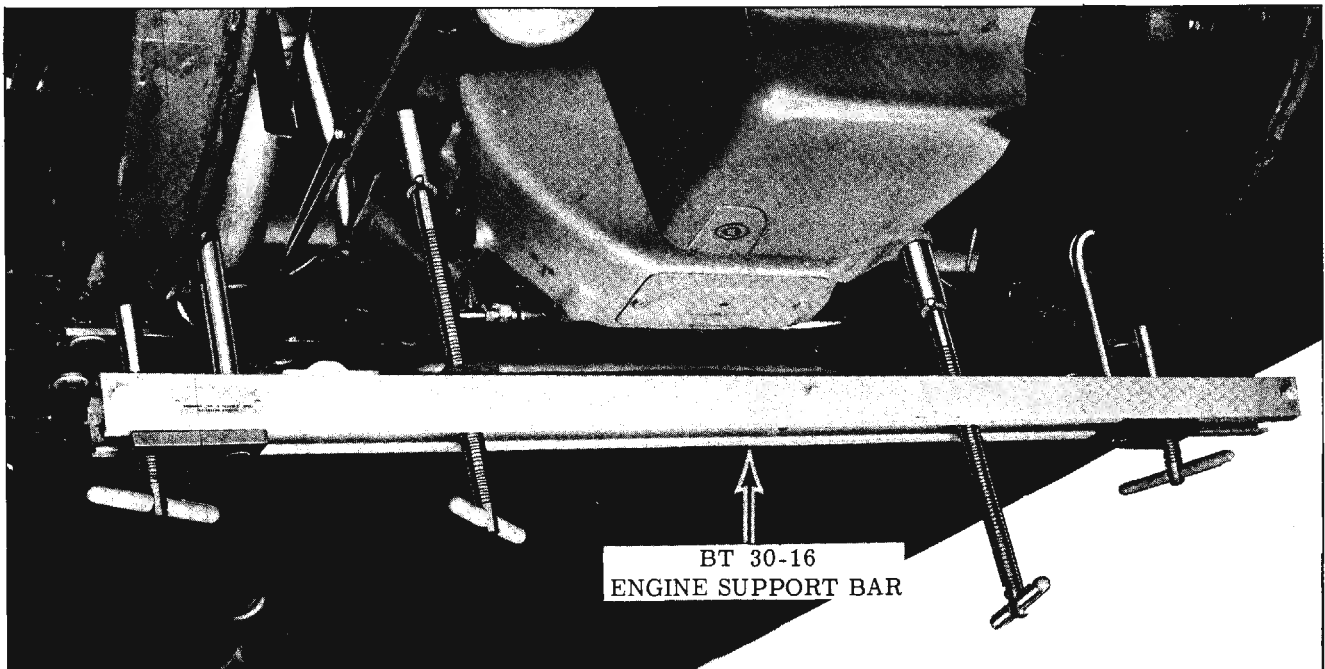

Fig. 8-52 Engine Support Bar
1. Position the Engine Support BT-30-16 as shown in Fig. 8-52.